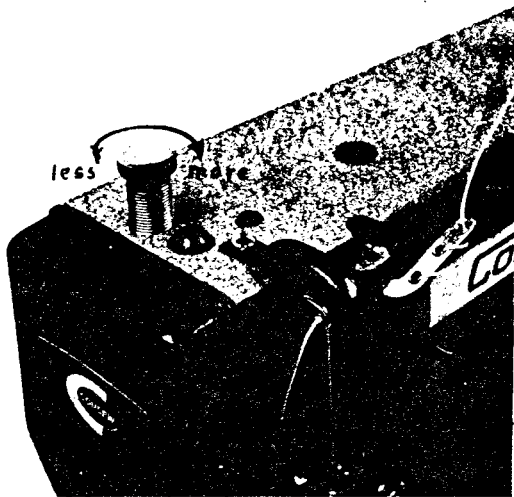

FIG.12
The pressure of the presser foot on the material is regulated by the Regulator Screw (R) (Fig. 12) on the top of the machine. Turn this regulator to the left decrease it. Do not employ more foot pressure than is required to feed the material properly.